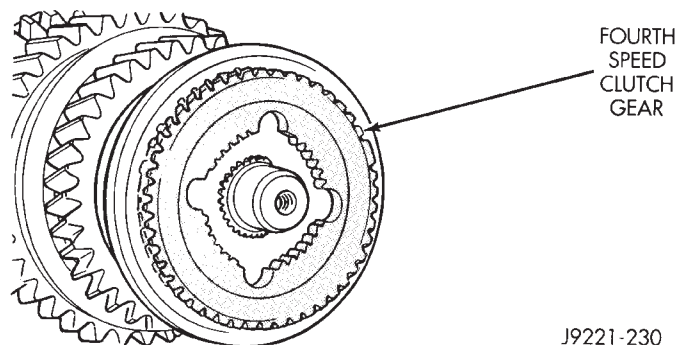

Fig. 120 Fourth gear Clutch Gear Installation
(38) Install fourth gear clutch gear in stop ring (Fig. 120).